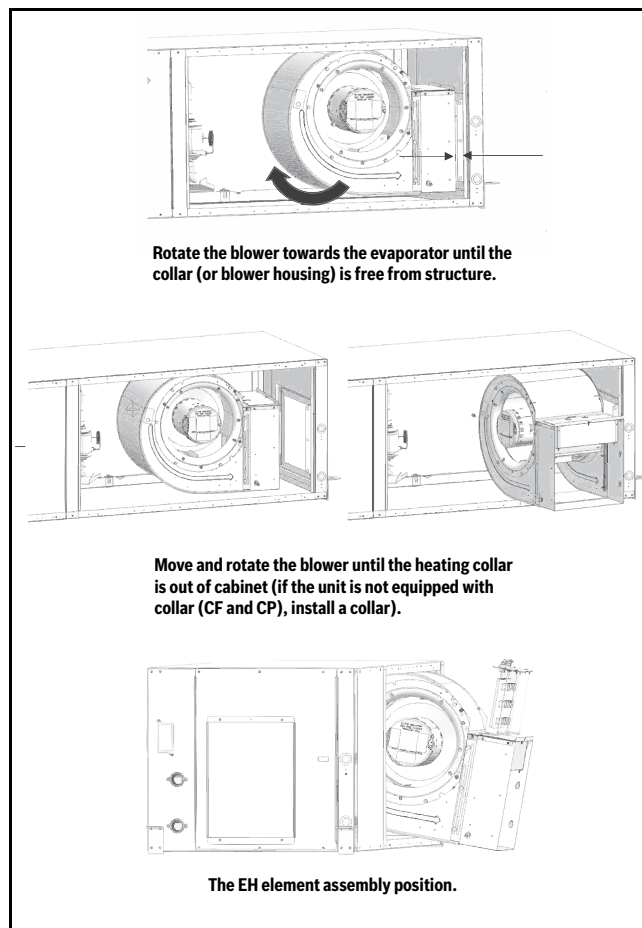

Fig. 30 Locations of the Blower Assembly Screws and Weld Pins
2. Remove the three screws located on the motor side of the blower assembly. Then twist and pull the blower assembly away from the welded pins located on opposite side to the motor, near the evaporator. (→Refer to Fig. 30.)